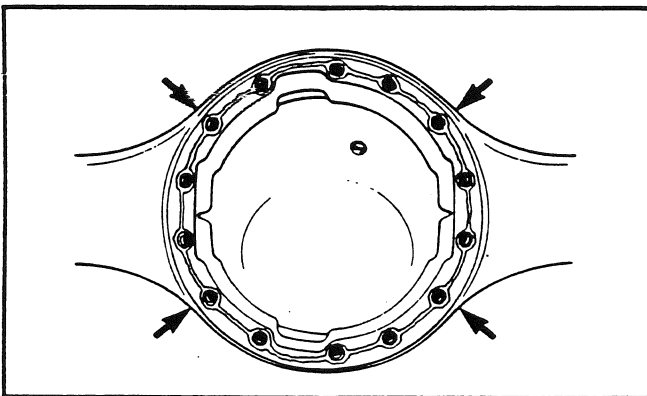

Fig. 96
- Install bolts and washers in the four corner locations around the carrier and housing (see Fig. 96). Tighten the bolts hand tight. Carefully push the carrier into position. Tighten the four bolts two or three turns each in a diagonal sequence. Repeat this procedure until the four bolts are tightened to the specified torque.